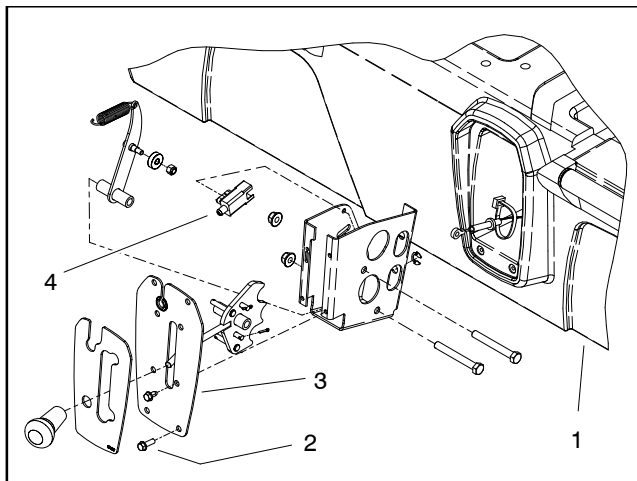

Figure 30
The optional backup switch is a four (4) terminal, two (2) circuit switch that is used to energize the backup alarm when the shift lever is in the reverse position. The normally open switch circuit is used while the normally closed switch circuit is not used. If equipped, this switch is attached to the shift bracket in the seat base (Fig. 30).